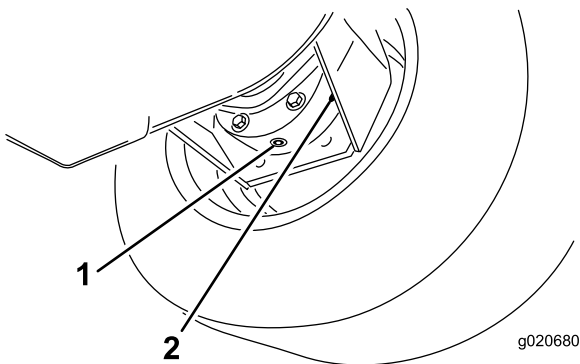

Figure 60
3. Place a drain pan under the brake housing, remove the drain plug, and allow the oil to drain (Figure 60).